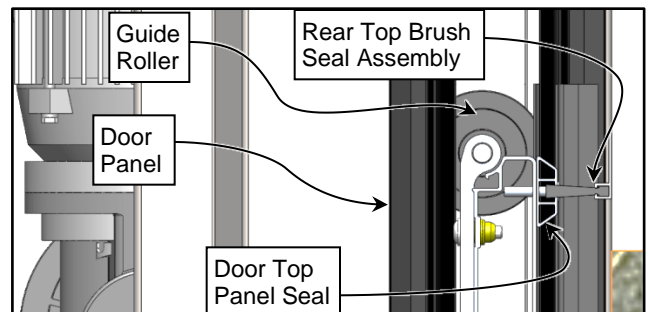
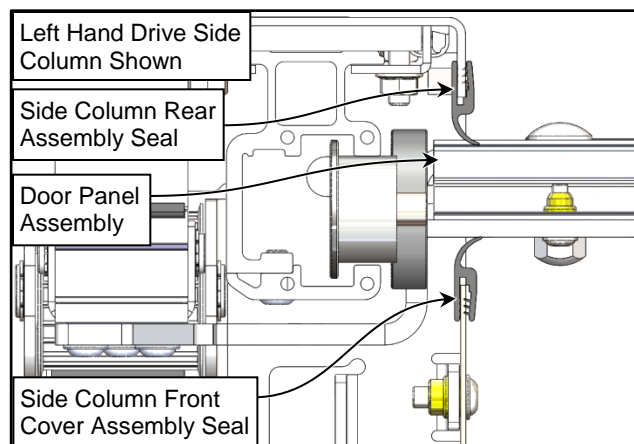
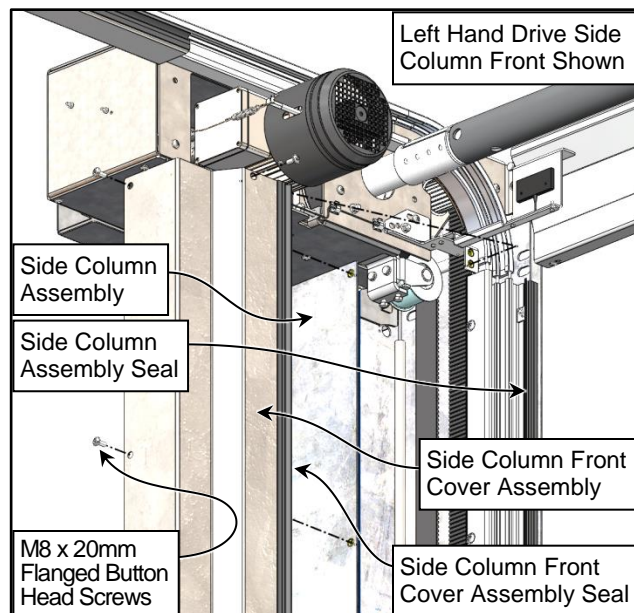

Figure 36
Figure 37
Figure 38
There are weather seals on the front & rear side of the door panel in the side columns as well as a brush seal between the door and the wall along the door's top lintel. (See Figure 36 & Figure 37)
3. Inspect the weather seals in both side columns. Check for wear and tear, and check for a good, tight fit between the door panel and the seal. Replace if necessary. (See Figure 37 & Figure 38)
4. Remove the side cover from each side column. Each cover is held in place with 20-mm long Button Head TORX® screws. (See Figure 38)